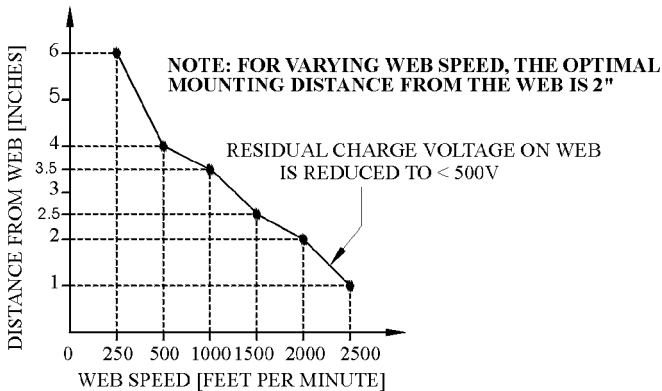

Figure 4. Optimal Mounting Distance of Blue Bar at Various Web Speeds
2. Determination of radius R depends on web speed. For varying web speed, radius R should be 2” from web surface. Refer to **Figure 4** for maximum mounting distance of bar from web surface. In certain applications, the Blue Bar has been found to work well at distances in excess of 6”.
3. Insert nylon screws through washers, then metal bracket, insulation block and finally into the sliding nuts supplied with each Blue Bar (see **Figure 4**).